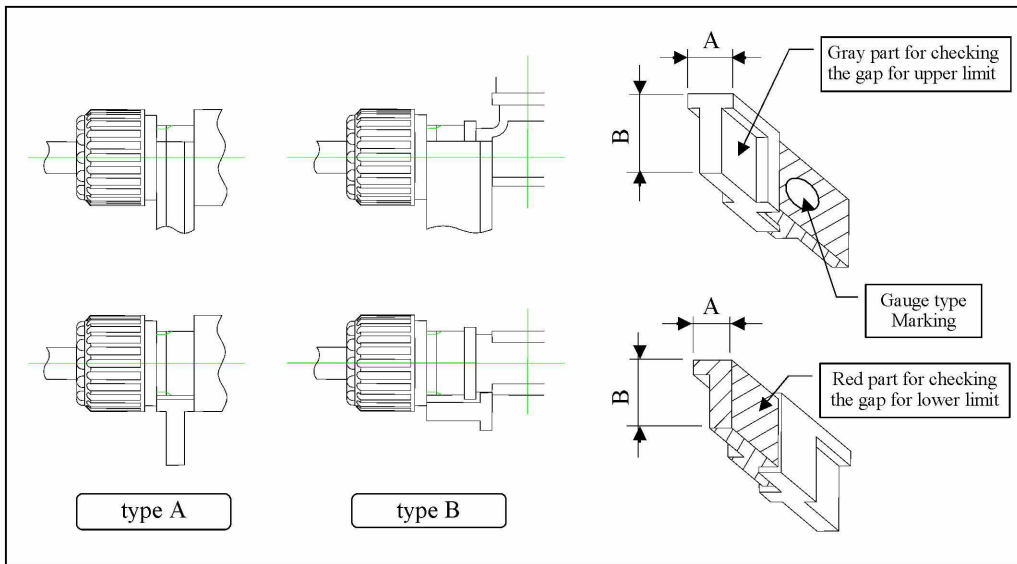

Fig.13 - How to use gap gauge (3, 4, W1)
- To check the tightness of the union nut, use gap gauges shown in Table 9. Using the gray part of gap gauges permits you to check the gap for upper limit. The red part of gap gauges is for checking the gap for lower limit. Determine whether or not a gap gauge can be inserted in the gap, as shown in Fig.13.
As shown in Fig.13, try to insert the gray part of the gap gauge in the gap between the fitting body and the union nut to make sure the gray part cannot be inserted. If the gray part can be inserted, tighten the union nut until the gauge cannot be inserted in the gap.